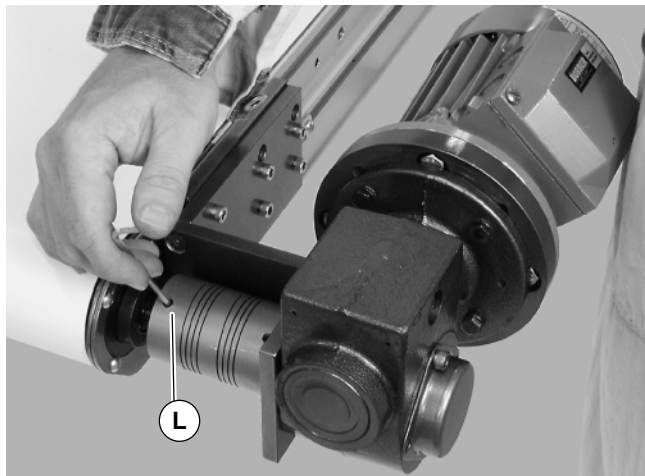

Figure 8
6. Jog motor and rotate coupling to gain access to set screw (L of Figure 8). Tighten to 33 in-lb (3.7 Nm). Repeat for second set screw.
2. Jog motor and rotate coupling to gain access to set screw (L of Figure 8). Loosen set screw. Repeat for second set screw.